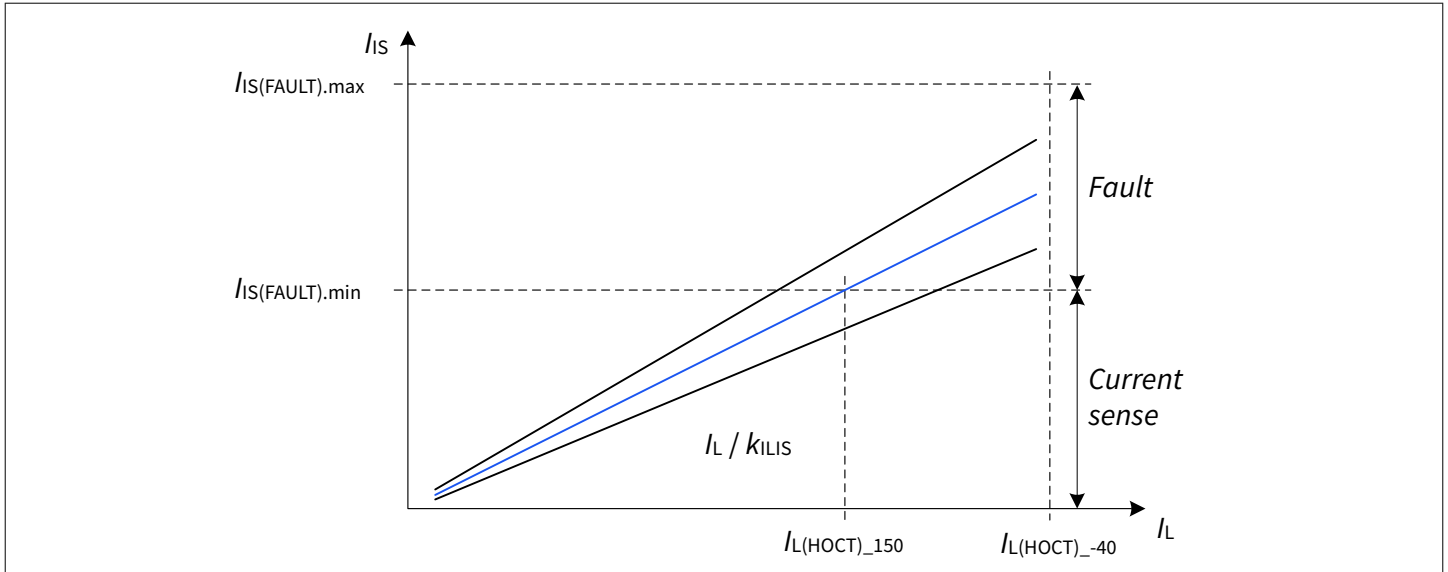

Figure 46 Current sense behavior - overview
- No fault (as described in Chapter 8.3) is present or was latched (see Figure 46 for more details)
Figure 46 shows the relation between  $I_{IS} = I_L / k_{ILIS}$ ,  $I_{IS(SAT)}$  and  $I_{IS(FAULT)}$ .
| SENSE saturation current                                          | $I_{\text{IS}(\text{SAT})}$      | 4.4    | –    | 15   | mA            | 1)$V_{\text{SIS}} = V_S - V_{\text{IS}} \geq 2\text{ V}$See <a href="#">Figure 46</a>            | PRQ-277  |